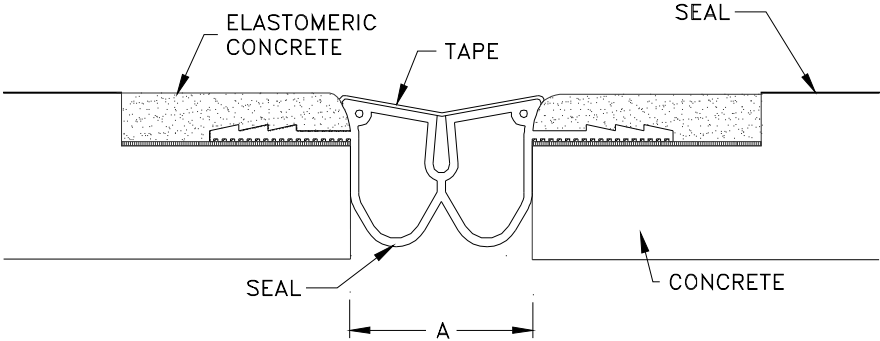

Figure 9
STEP 11. Champfer the edges of the Elastomeric Concrete along its interface with the seal. As needed, level off the Elastomeric Concrete and trowel the finish smooth. Trowel the surface flush with the top of the deck (see Figure 9). For best results, use a trowel that is wiped in an approved solvent. This will prevent the Elastomeric Concrete from building up on the trowel and provide a smooth finish.